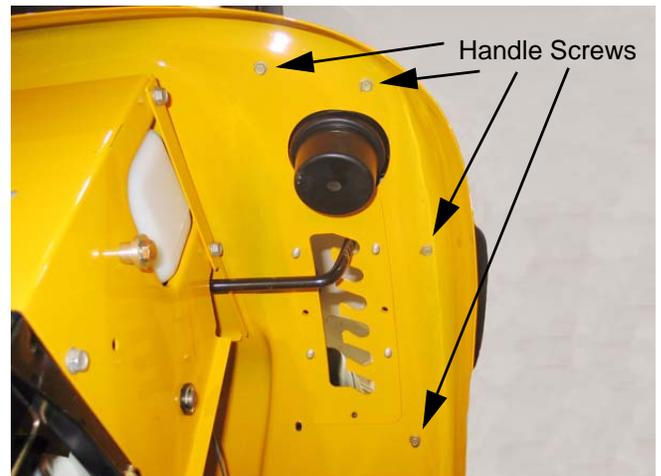

Figure 13.4
- 13.4. Remove the handle from the rear fenders using a 3/8" wrench. The screws are accessible from inside the rear fender. See Figure 13.4.